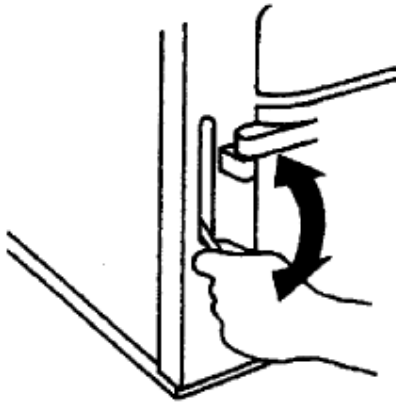
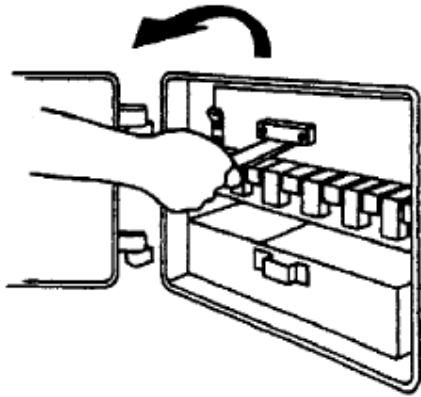

Fig. 8
Fig. 10
- d. De-ash (Fig. 8) and remove dead fuel from bottomgrate (lift off clinker door above the bottomgrate (Fig. 10), rake fuel into ashpan replace clinker door).
- d. De-ash (Fig. 8) and remove clinker door (Fig. 10). Insert flat bayonet type gas poker on top of bottomgrate bars.
To de-ash, riddle the grate by agitating the riddling handle in an up and down manner about 20 times to free the grate of ash. See Fig. 8.
Due to an accumulation of pieces of stone, clinker and shale etc. it may not be possible to pass them through the grate when riddling, and may even cause jamming. Allow the fire to burn out and then open the ashpit door. Lift off the clinker door (See Fig. 10) and insert hooked poker to draw out any offending accumulation. Replace clinker door after use.